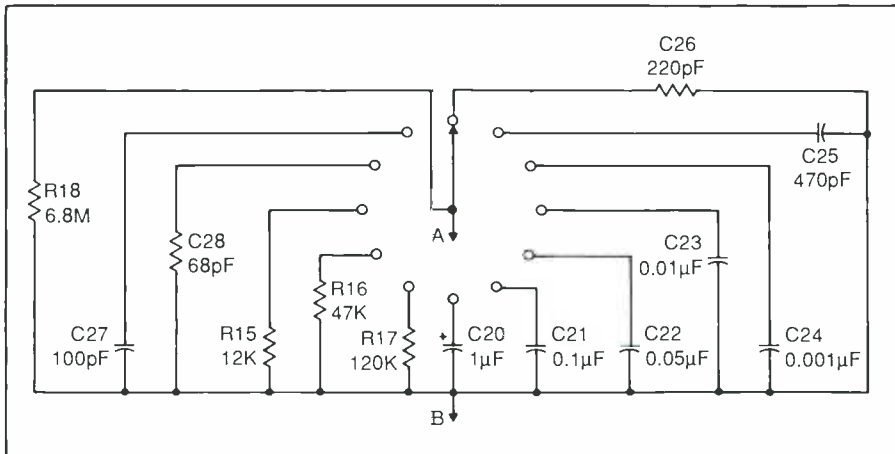

Fig. 4(B). Circuit details for S1.
Shown in Fig. 4(A) is the schematic diagram of the accessory's circuitry minus its power supply. The active elements in this circuit are commonly available operational amplifiers. Use of 741 and CA3140 op amps keep the cost of components for the project low. They are easy to obtain from most mail-order and many local electronic component distributors.
Input stage  $IC1$  is configured in Fig. 4 as a noninverting follower circuit that has a gain of 2. The reason for selecting this particular circuit configuration is its extremely high input impedance, which does not
Shown in Fig. 4(B) is the feedback network for the Miller integrator. This consists of a 12-position non-